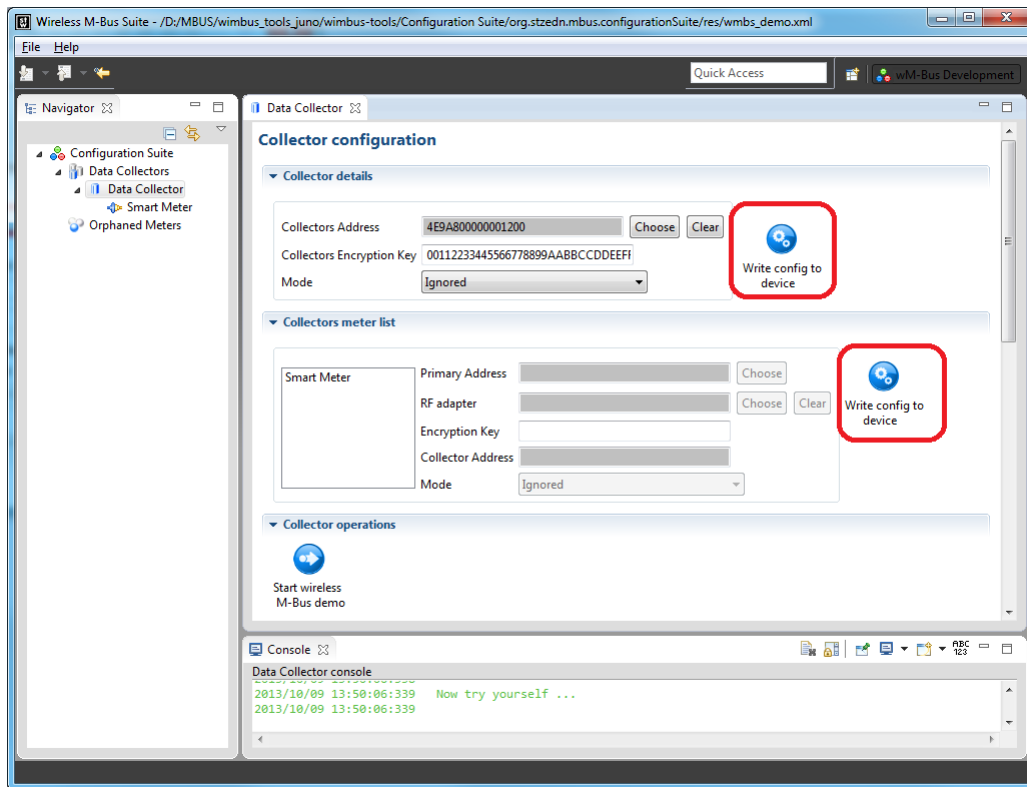

Figure 42: Write config to device
3. Double click on the 'Data Collector' device in the device tree. Press on the red framed button 'Write config to device' or 'Start wireless M-Bus demo' (refer figure 42).